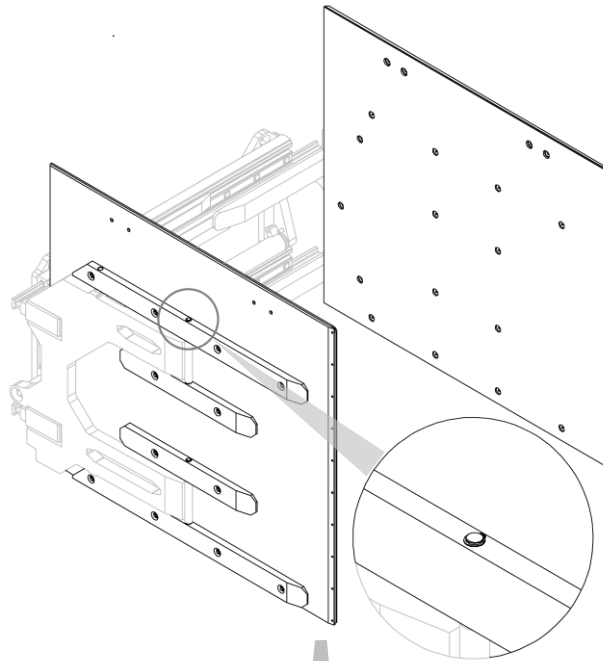
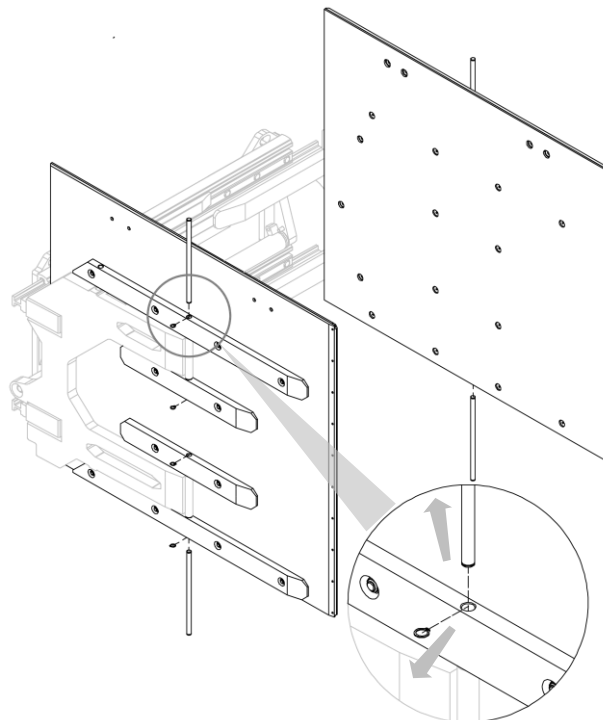

Figure 69
Figure 70
2. Remove the panels (with their plates) from the forks, after removing, the pins that support them one by one (see *Figure 69* and *Figure 70*).